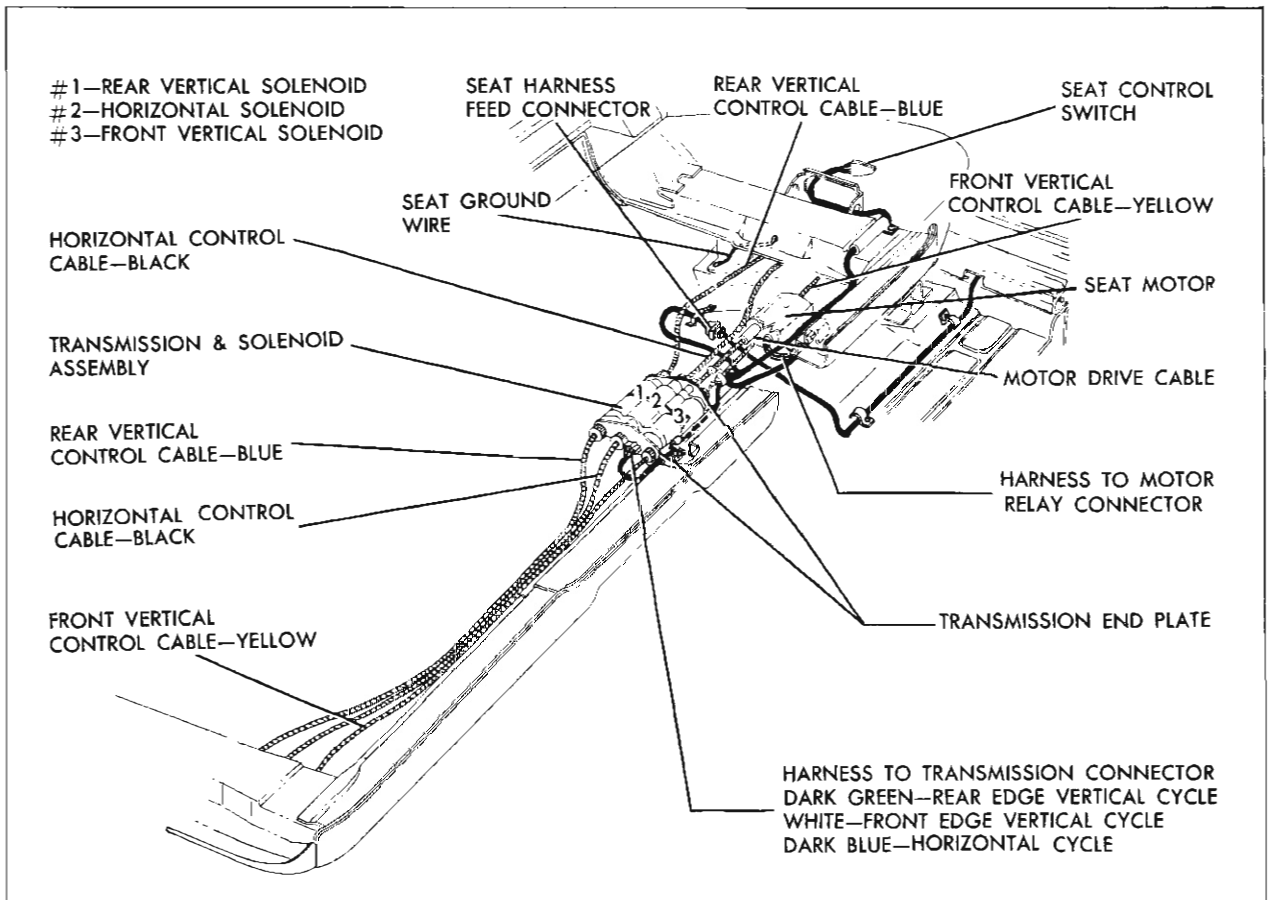

Fig. 8-7 Six-Way Installation
Solenoid #1 (Fig. 8-7) controls the vertical movement of the rear edge of the seat. Solenoid #2 controls the horizontal movement of the rear edge of the seat. Solenoid #3 controls the vertical movement of the front edge of the seat. In addition to the six seat adjuster drive cables at the transmission assembly, a motor drive cable is installed from the motor to the transmission assembly (Fig. 8-7). When one of the control switch buttons is actuated, the
removal procedure. Make sure cables are installed to correct gear nuts (Fig. 8-7).
2. Disconnect wire harness connector from transmission (Fig. 8-7).